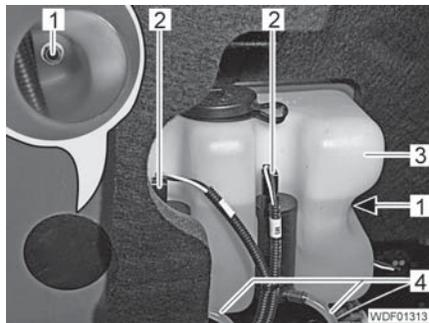

Fig. 373 Windshield washer container
- In each case, detach 1 plug (Fig. 373,2) from each of the washer water pumps.
- In each case, unplug 1 transparent hose (Fig. 373,4) from the two washer water pumps and close them off.
- Unscrew the 2 screws (Fig. 373,1) and remove the windshield washer container (Fig. 373,3).
- Put the windshield washer container (Fig. 373,3) into position.
- Screw in 2 screws (Fig. 373,1) with washers and tighten.
- In each case, connect 1 transparent hose (Fig. 373,4) to the two washer water pumps.
- Attach 1 connector (Fig. 373,2) to the two washer water pumps.